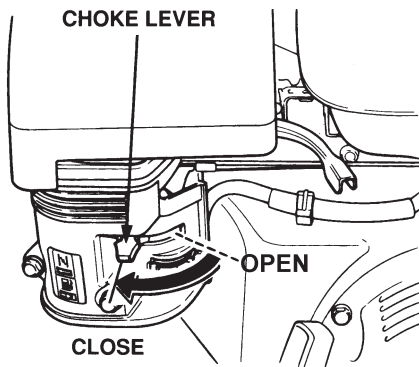

Figure 22. Choke Lever
- Place the **Choke Lever** (Figure 22) in the "OPEN" position
- If the engine has started allow switch to return to **ON** position, then slowly return the choke lever (Figure 22) to the **CLOSED** position. If the engine has not started repeat steps 1 through 5.